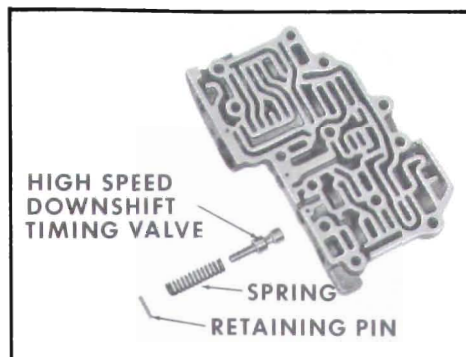

Figure 5-172
1. Install high speed down shift timing valve and spring. Depress spring with J-21547 and install retaining pin. See Figure 5-172.